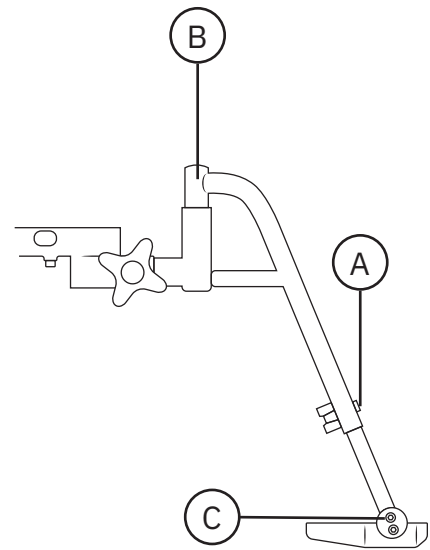

Figure 5.27. Cross leg support.
Cross leg supports are removable without tools and can be rotated sideways. The leg supports are adjustable in height (A), angle of leg support (B) and angle of foot plate (C), see Figure 5.27.